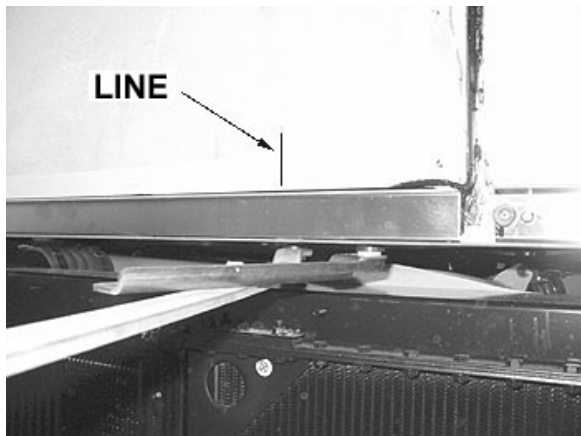

FIGURE 60: REFERENCE LINE
2. Using a rubber mallet, adjust the lower part of pantograph arm in order to get 4 ± 1 mm between lateral panel and engine door (Refer to Figure 60 and Figure 61).